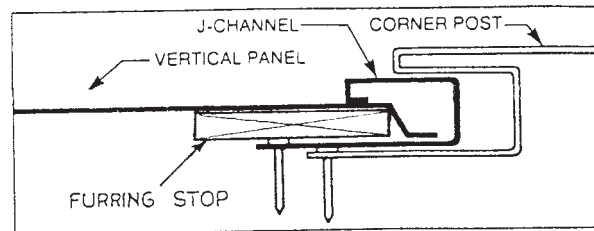

FIG. 31 Installation of Panel Cut-in Bottom of V-Groove
10.9.1 If panel is cut in the bottom of the V-groove, insert into the J-channel. A furring stop should be provided prior to panel insertion. This will prevent the panel from detaching. (See Fig. 31.)